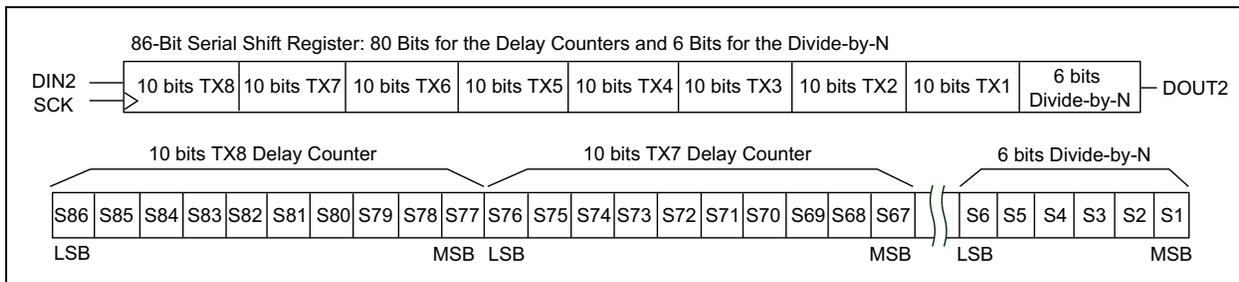

FIGURE 3-3: Delay and Divide-by-N Registers.
As shown in Figure 3-3, the data first enter into the 10-bit register for the TX8 delay counter and continue to be shifted through to the 6-bit register for the divide-by-N counter. Data are clocked in during the rising edge of the clock. There is no activity during the falling edge of the clock. The MSB bit in the 6-bit Divide-by-N register is clocked out into DOUT2 for cascading multiple devices, if desired.
- Updated Figure 3-3.